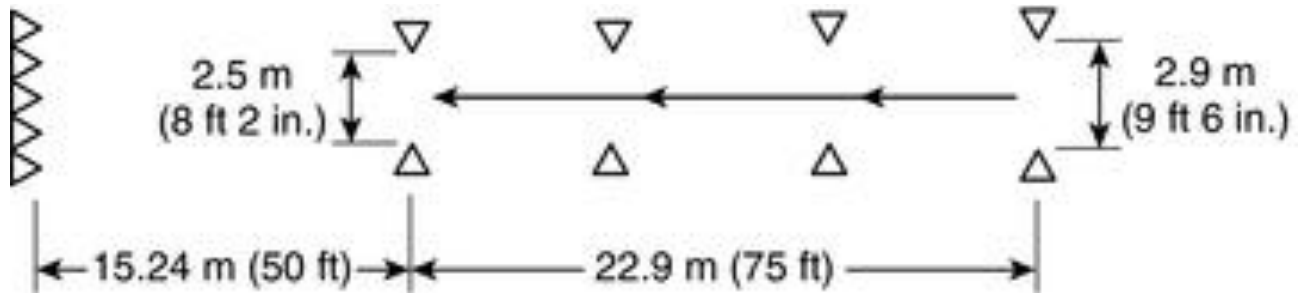

FIGURE A.4.3.5 Diminishing Clearance Exercise.
A.4.3.5: The diminishing clearance exercise can be used as practice for meeting or in the evaluation of this requirement. The course for this exercise is created by arranging two rows of markers to form a lane 22.9 m (75 ft) long. The lane varies in width from 2.9 m (9 ft 6 in.) to a diminishing clearance of 2.5 m (8 ft 2 in.). The driver should maneuver the apparatus through this lane without touching the markers. The vehicle should be stopped at a finish line 15.24 m (50 ft) beyond the last marker. No portion of the vehicle should protrude beyond this line. Vertical clearance judgment should be evaluated using a prop with a crossbar that is adjustable, based on the vehicle height. During the evaluation, the driver should drive forward and back through the prop with the crossbar at several differing heights, including one that is lower than the top of the vehicle. The prop should not be struck. The intent of the vertical clearance judgment is for proper identification of the furthestmost point in the form of the apparatus. In situations where the apparatus is gaining entry to roadways or limited-height areas, the driver/operator must allow appropriate space ahead of the apparatus in order to avoid striking objects or to avoid extending apparatus into traffic lanes. (See Figure A.4.3.5.) Note that for large vehicles, such as ARFF apparatus, this course might need to be modified.